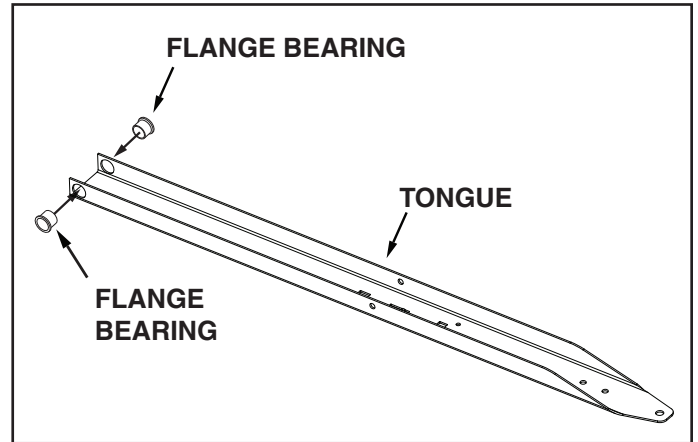

FIGURE 8
- Insert a flange bearing into each side of the tongue as shown in figure 8.